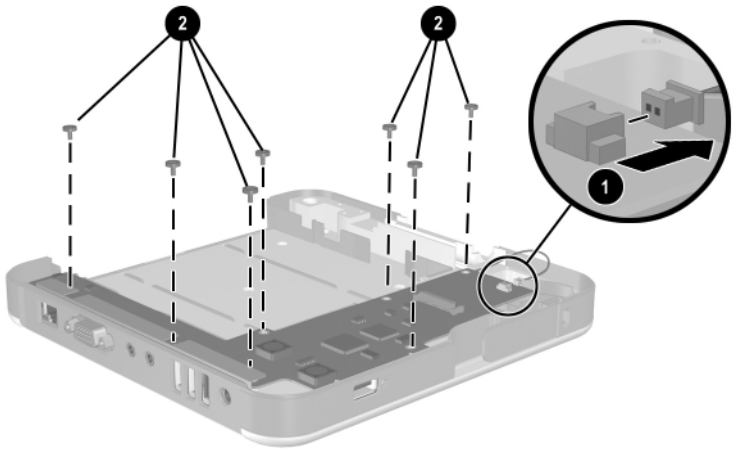

Figure 5-34. Removing the Board Assembly Screws
9. Disconnect the switch cable ❶ from the board assembly (Figure 5-34).
10. Remove the seven PM2.5 × 5.0 screws ❷ that secure the board assembly to the bottom case.